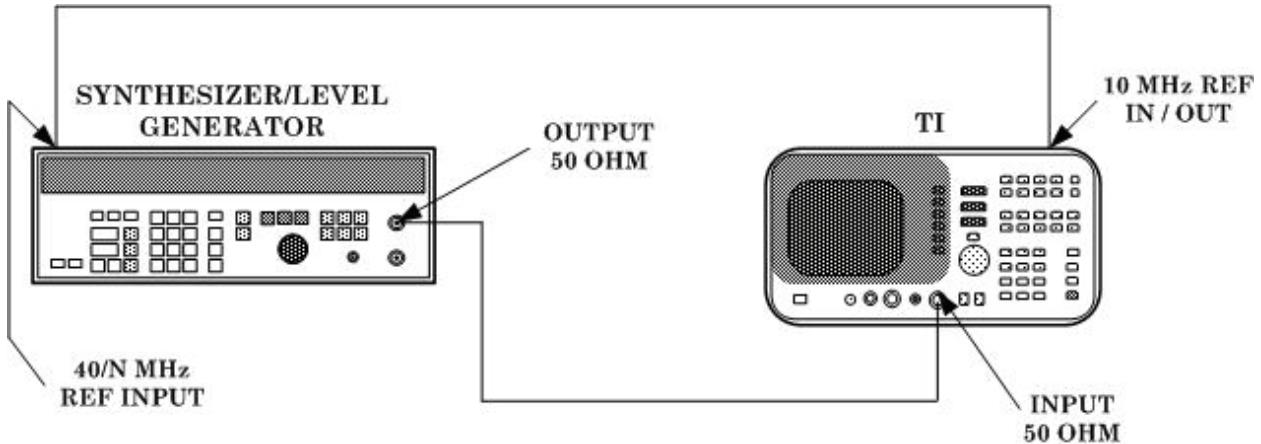

Figure 6. Frequency response - equipment setup.
(17) Set synthesized signal generator frequency to 10 MHz.
(18) Set measuring receiver to measure RF power in dBm at 10 MHz.
(19) Press TI **FREQUENCY** key then **[CENTER FREQ]** key and enter **10 MHz** using **DATA** keys.
(20) Press TI **SPAN** key then **[SPAN]** key and enter **10 kHz** using **DATA** keys.
(21) Press **MARKER PEAK SEARCH** key.
(22) Adjust synthesized signal generator level output for a **TI MKR** amplitude indication between -9.95 and -10.05 dBm. Measuring receiver indication will be within ± 1.8 dB of indication recorded in (7) above.
(23) Record measuring receiver indication.
(24) Connect equipment as shown in figure 6.